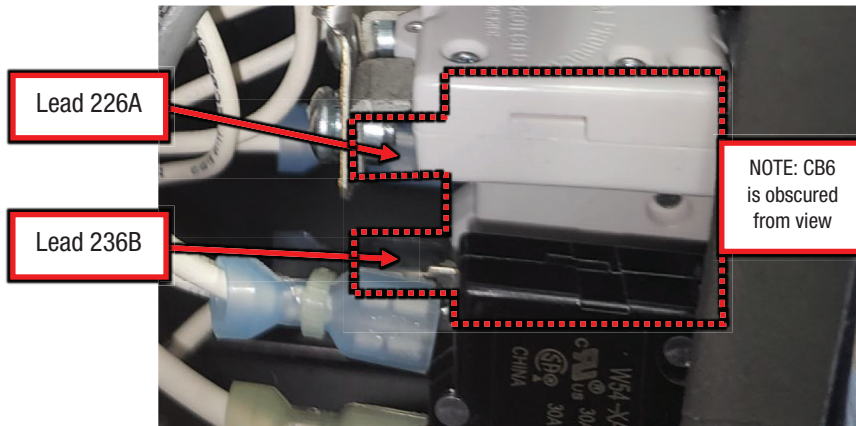

Figure F.2
- A.2. Label and disconnect the following connections on CB6, refer to Figure F.2.